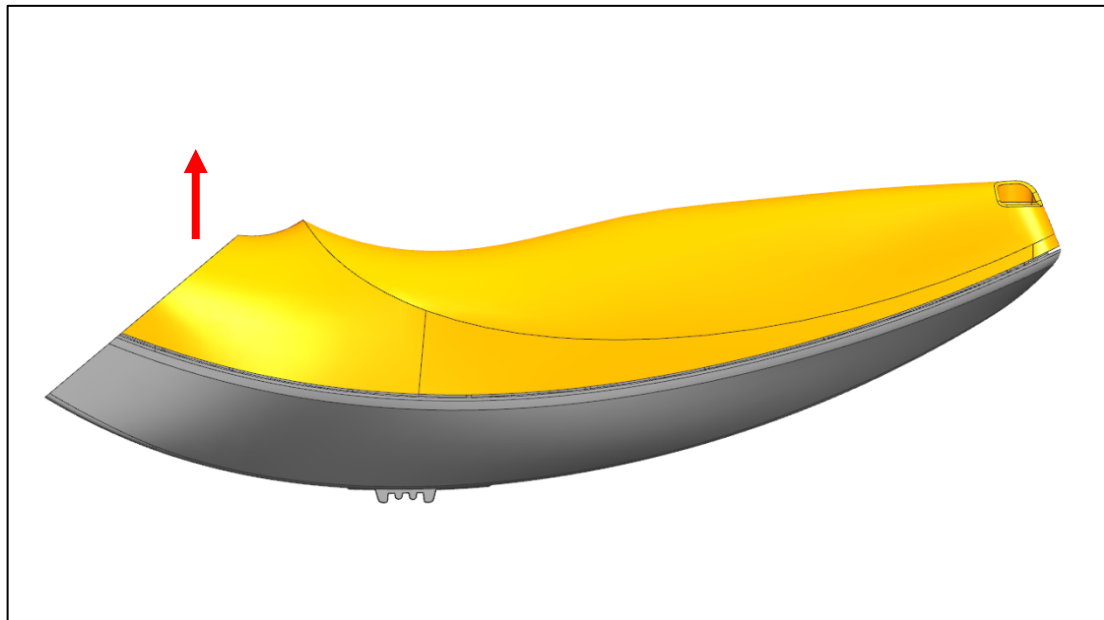

Fig. 6
b) Pull the lower housing downwards from the upper housing (Fig. 6).